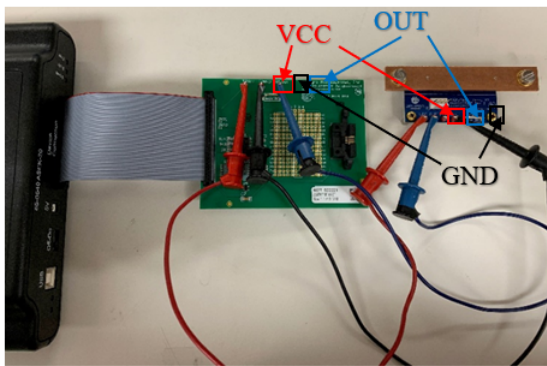
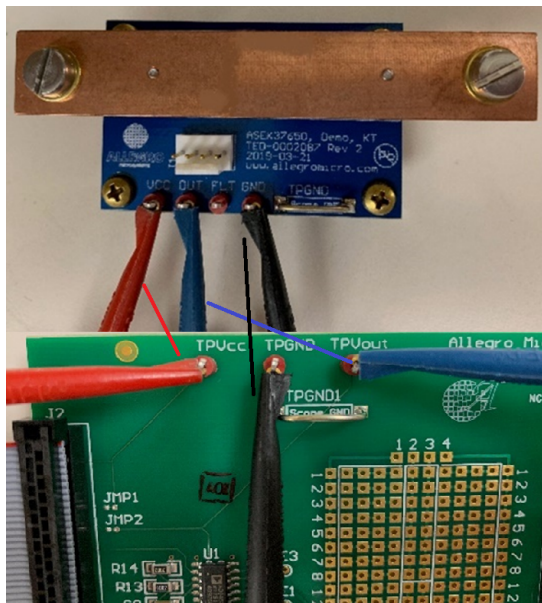

Figure 9: Connection between ACS37610 evaluation board and ASEK20 ACS37610 daughterboard
Figure 10: Closeup of VCC, OUT, and GND pin connections on the ACS37610 busbar evaluation board (top) to the ACS37610 daughterboard (bottom)
4. See Figure 9 and Figure 10 below showing the connection setup between the VCC, OUT, and GND pins of the ASEK-20 ACS37610 daughterboard and the ASEK37610 evaluation board.